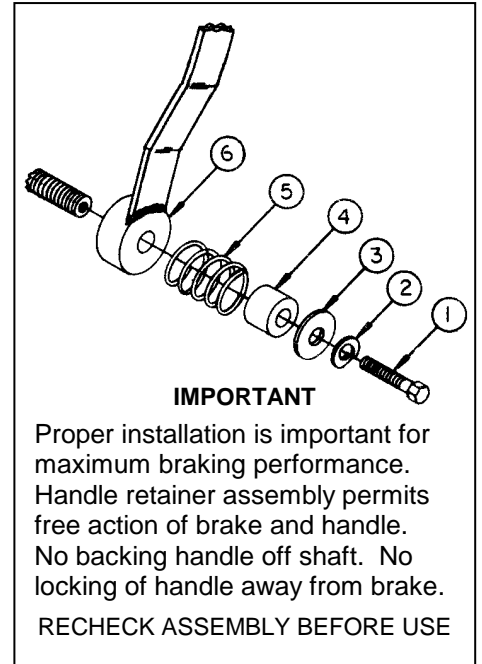

Fig. 1: Handle Retainer Assembly
- A. **HANDLE.** Insert handle (item 6, Fig. 1) on threaded brake assembly shaft. Thread handle to point of engagement (touching) of brake pad.
- B. **HANDLE RETAINER ASSEMBLY.** Insert Bolt (Item 1, Fig. 1) through lockwasher (Item 2, Fig. 1), flatwasher (Item 3, Fig. 1), spacer (Item 4, Fig. 1) and spring (Item 5, Fig.1- spring will fit over spacer). Recheck Fig. 1 to ensure proper order of assembly.
Install bolt containing assembled retainer parts (Fig. 1) into threaded end of brake shaft and tighten bolt securely.